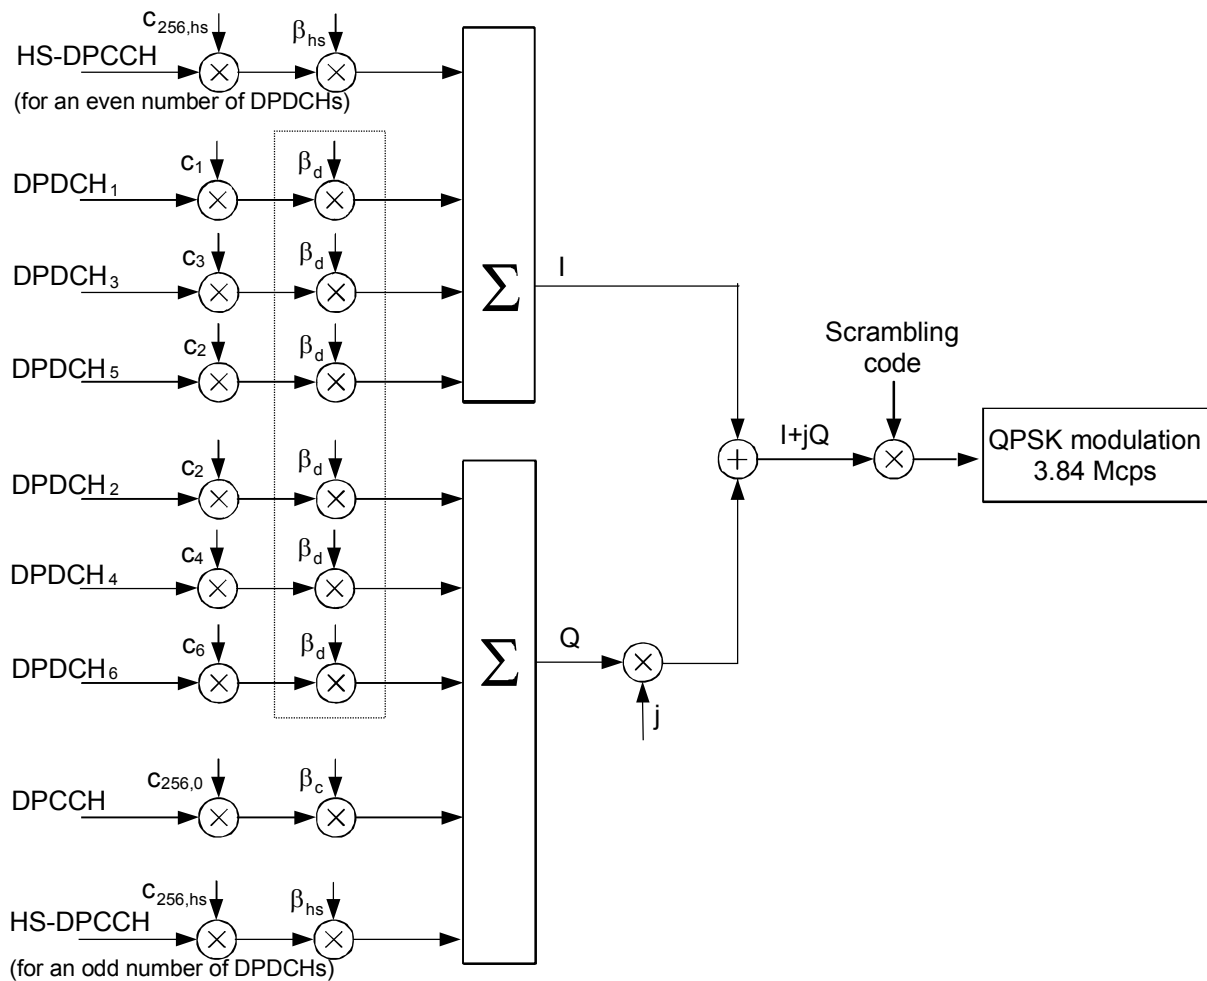

Fig. 4-100 Spreading of the uplink channels and gain factors
- The power offset parameters Δ_{ACK} , Δ_{NACK} , and Δ_{CQI} determine the HS-DPCCH power offset for HS-DPCCH slots carrying ACK, NACK, and CQI messages, respectively (see standard TS 25.214). The gain factors β_{hs} in Fig. 4-100 below are calculated from the HS-DPCCH power offset. The signalled values for all three power offset parameters are integer numbers between 0 and 8.